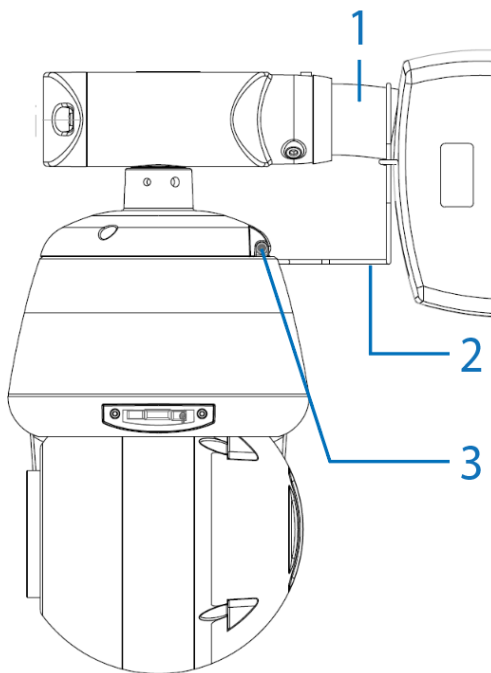

Figure 4
1. Hold the large loop on the safety lanyard (2) (Figure 4) up next to the mounting arm (1) (Figure 4).
3. Remove the safety lanyard screw (3) (Figure 4) on the camera.